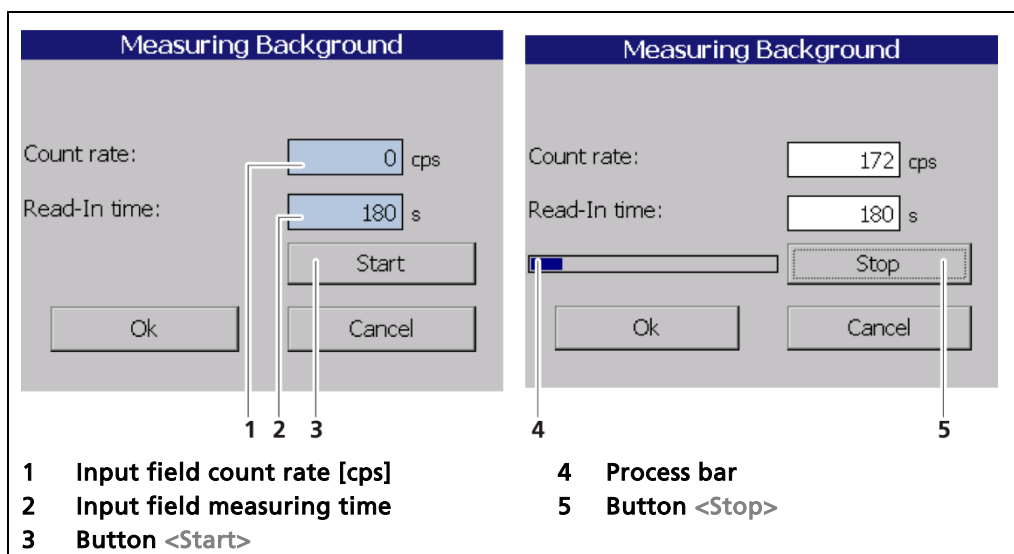

Fig. 84 Calibration settings: Measuring Background
- ▶ A new window "Background" (Fig. 84) opens to determine the background count rate.
- 3. Click on the "Measurement time" field (Fig. 84, item 2) and specify the duration of measurement in seconds. The higher you set the measurement time, the more accurate the result.